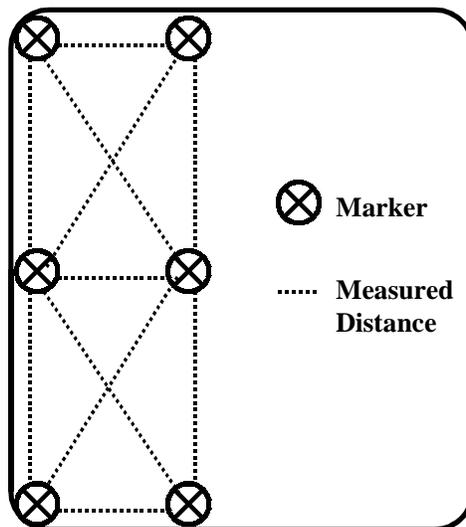

Figure 2. “Monobild” Layout.
- The first method, called “Monobild,” is used by traditional patrol officers. In this method, the officer puts down markers on the road, measures the distance between the markers, and then makes the photos. The normal pattern is more or less a rectangular shape like the one shown in Figure 2. The measurement sheet and photos are then related. Due to the known distances all objects in the rectangles, and closely outside, are measured by the computer.